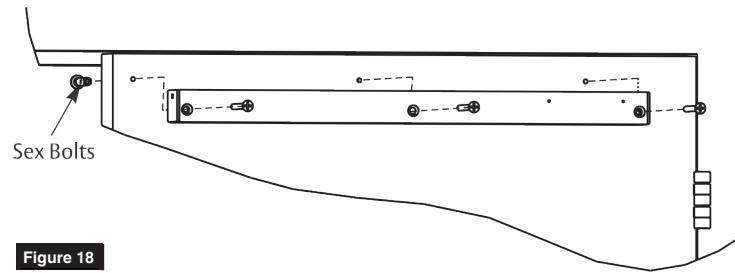

Figure 18
- Using previously prepared holes in door, install three (3) 1/4-20 x 1-5/8" screws through track and into sex bolts. (Figure 18)